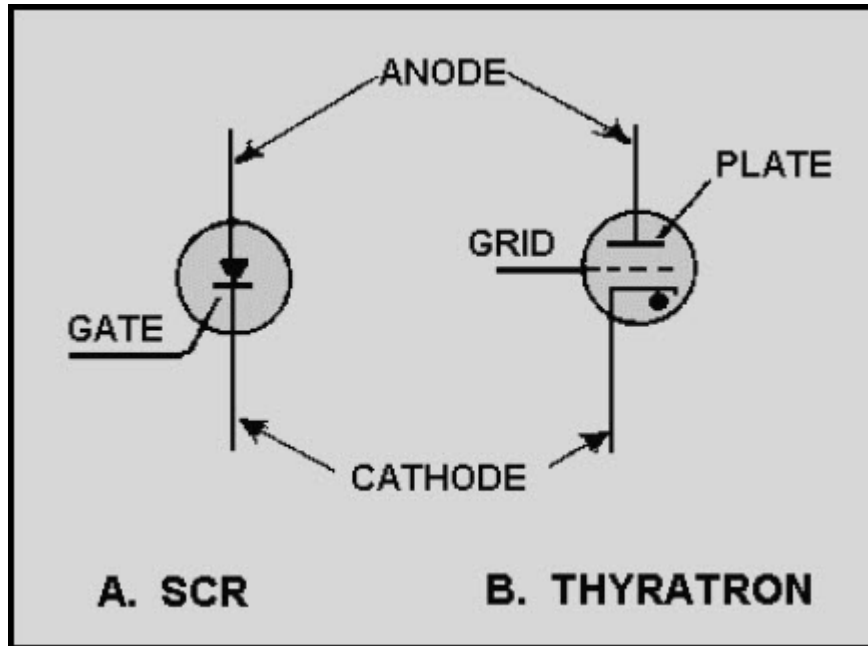

Figure 3-21 Comparison of an SCR and a thyatron
The basic operation of the SCR can be compared to that of the thyatron. The thyatron is an electron tube, normally gas filled, that uses a filament or a heater. The SCR and the thyatron function in a very similar manner. Figure 3-21 shows the schematic of each with the corresponding elements labeled. In both types of devices, control by the input signal is lost after they are triggered. The control grid (thyatron) and the gate (SCR) have no further effect on the magnitude of the load current after conduction begins. The load current can be interrupted by one or more of three methods: (1) the load circuit must be opened by a switch, (2) the plate (anode) voltage must be reduced below the ionizing potential of the gas (thyatron), (3) the forward-bias current must be reduced below a minimum value required to sustain conduction (SCR). The input resistance of the SCR is relatively low (approximately 100 ohms) and requires a current for triggering; the input resistance of the thyatron is exceptionally high, and requires a voltage input to the grid for triggering action.